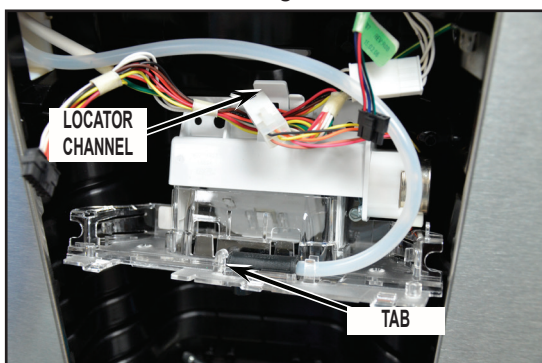

FIGURE 4
4. Disconnect dispenser hose by removing hose from locator channel and then by locating and depressing the tab to release. See *Figure 4*.